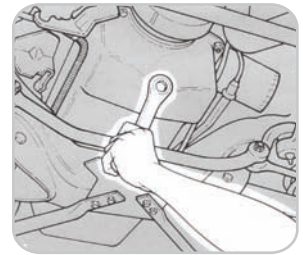

Fig 1
- Remove the oil drain plug. When the oil is totally drained check that the drain plug gasket is intact and **refit the drain plug** (Fig 1).